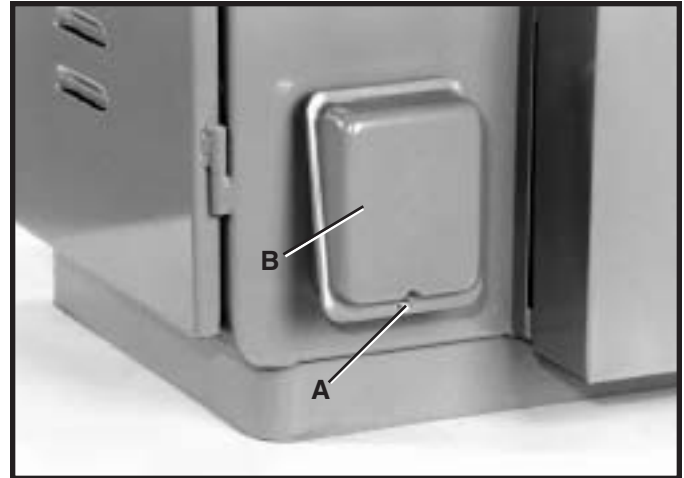

Fig. 15
1. Remove screw (A) Fig. 15, and terminal strip cover (B).